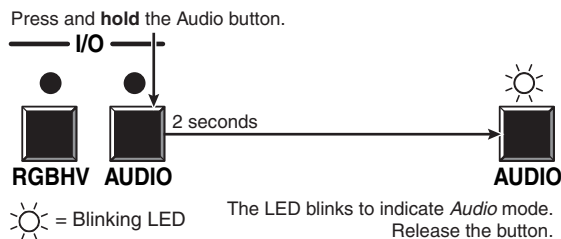

Figure 3-51 — Select Audio mode
2. Press and **hold** the Audio button for approximately 2 seconds (figure 3-51).